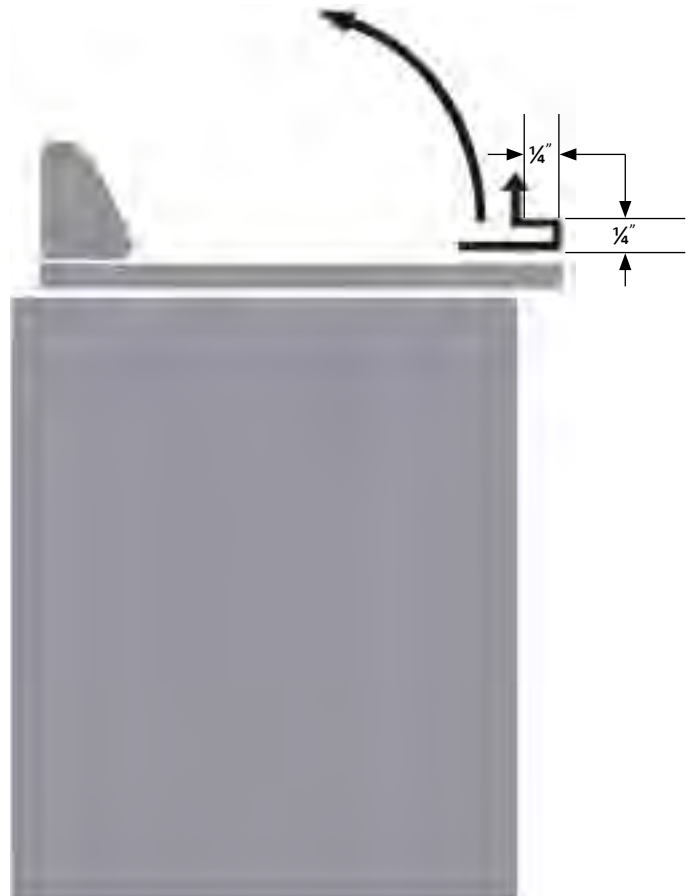

Figure 3
6. Raise the top about 1/4". Then, while still keeping it lifted, push the top back about 1/4" (see Figure 3).